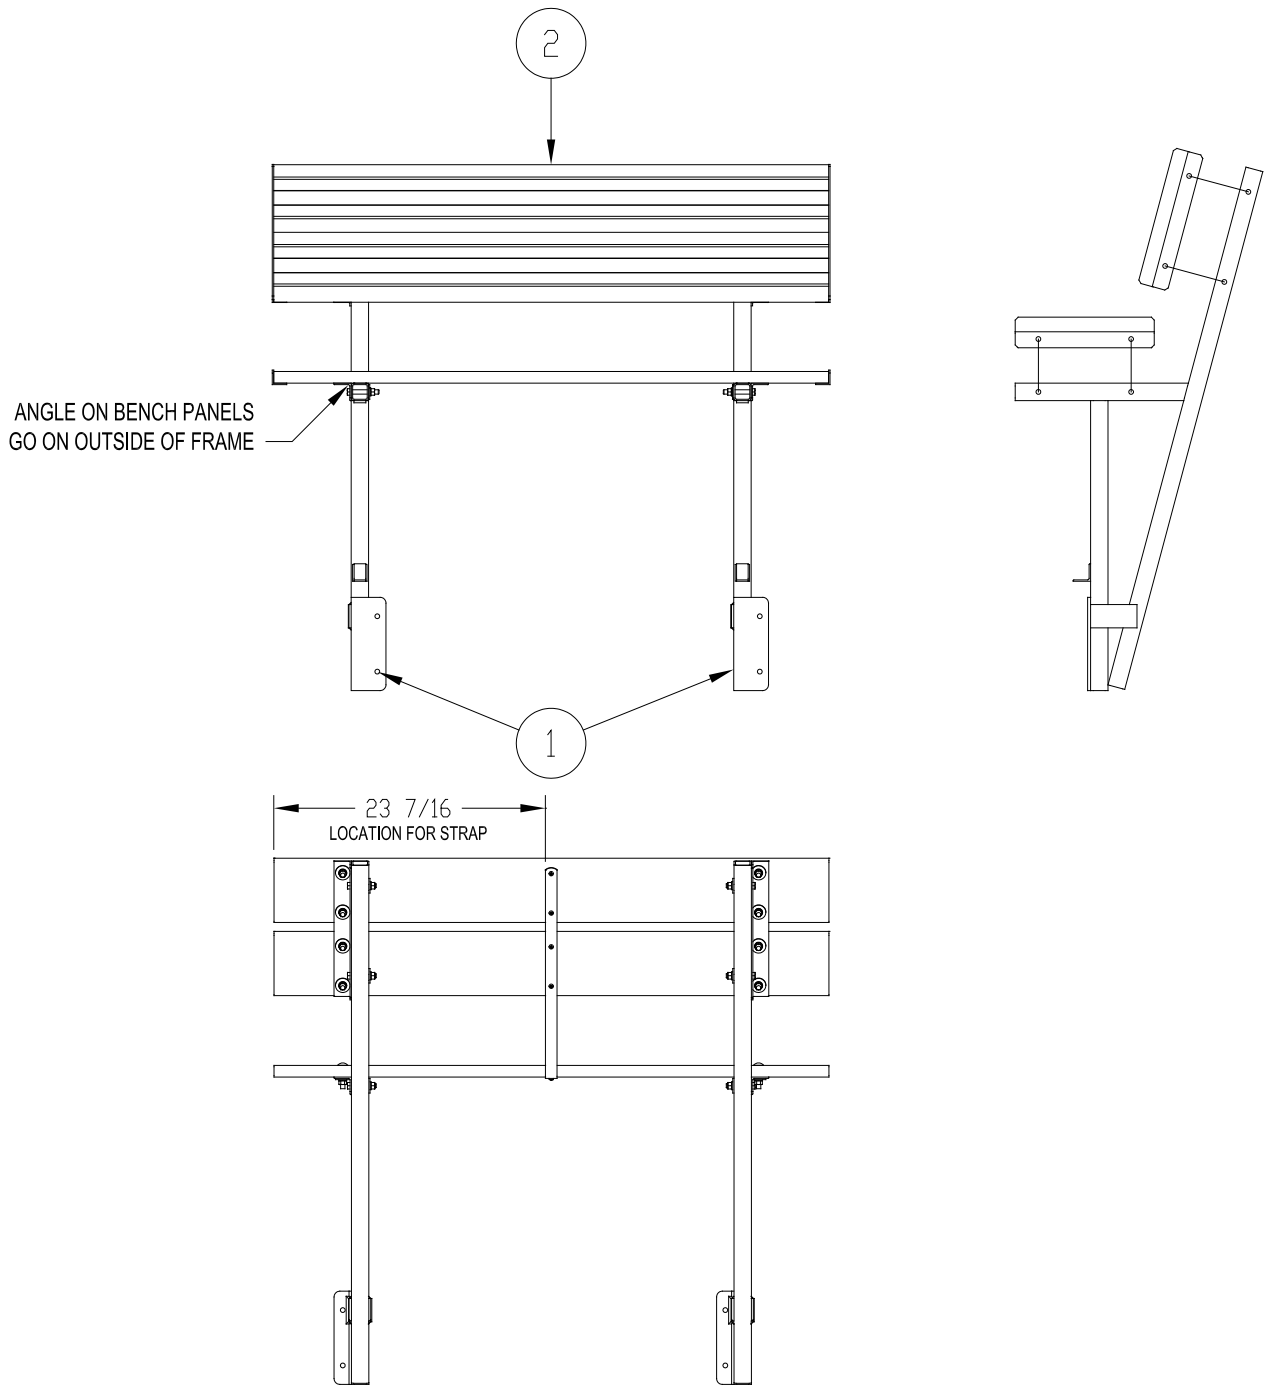
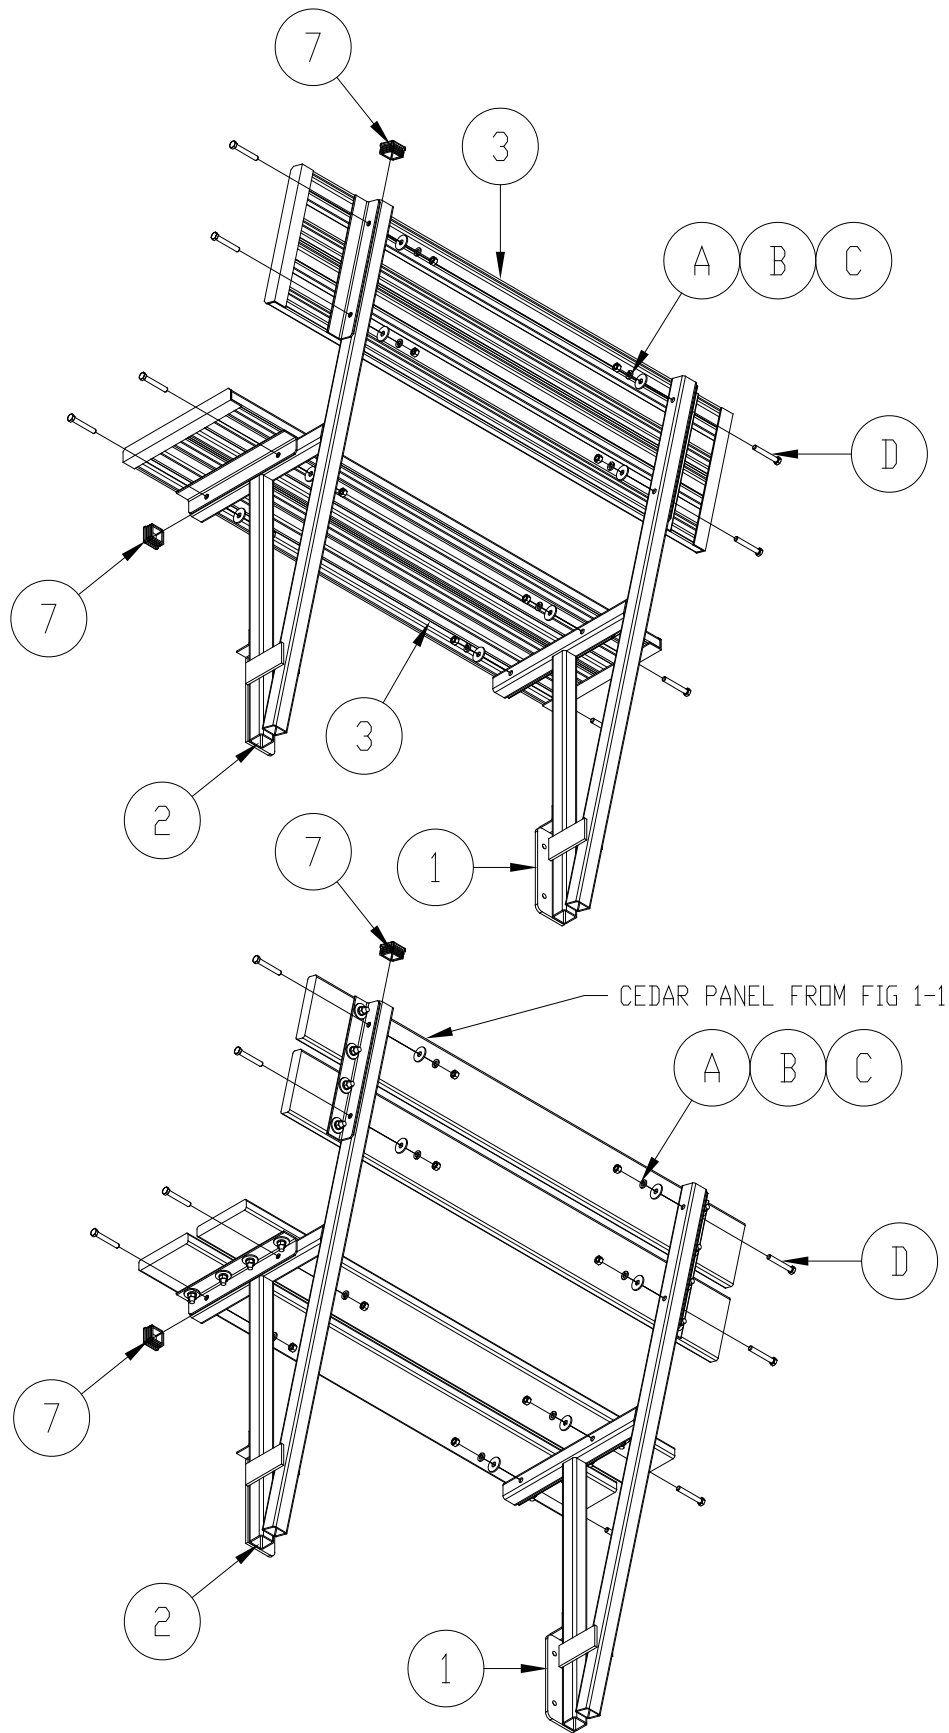

Figure 1-2 Bench Assembly
Figure 1-3
3. Figures 1-2 & 1-3 show the mounting of the bench panels onto the frames.
4. Mount the panels onto the frames as shown in Figure 1-2 and fasten into place using the necessary hardware as shown in Figure 1-3.
5. The cedar bench gets a strap that is screwed into place using 8 screws as shown below in Figure 1-3. Figure 1-2 shows the placement of the strap.